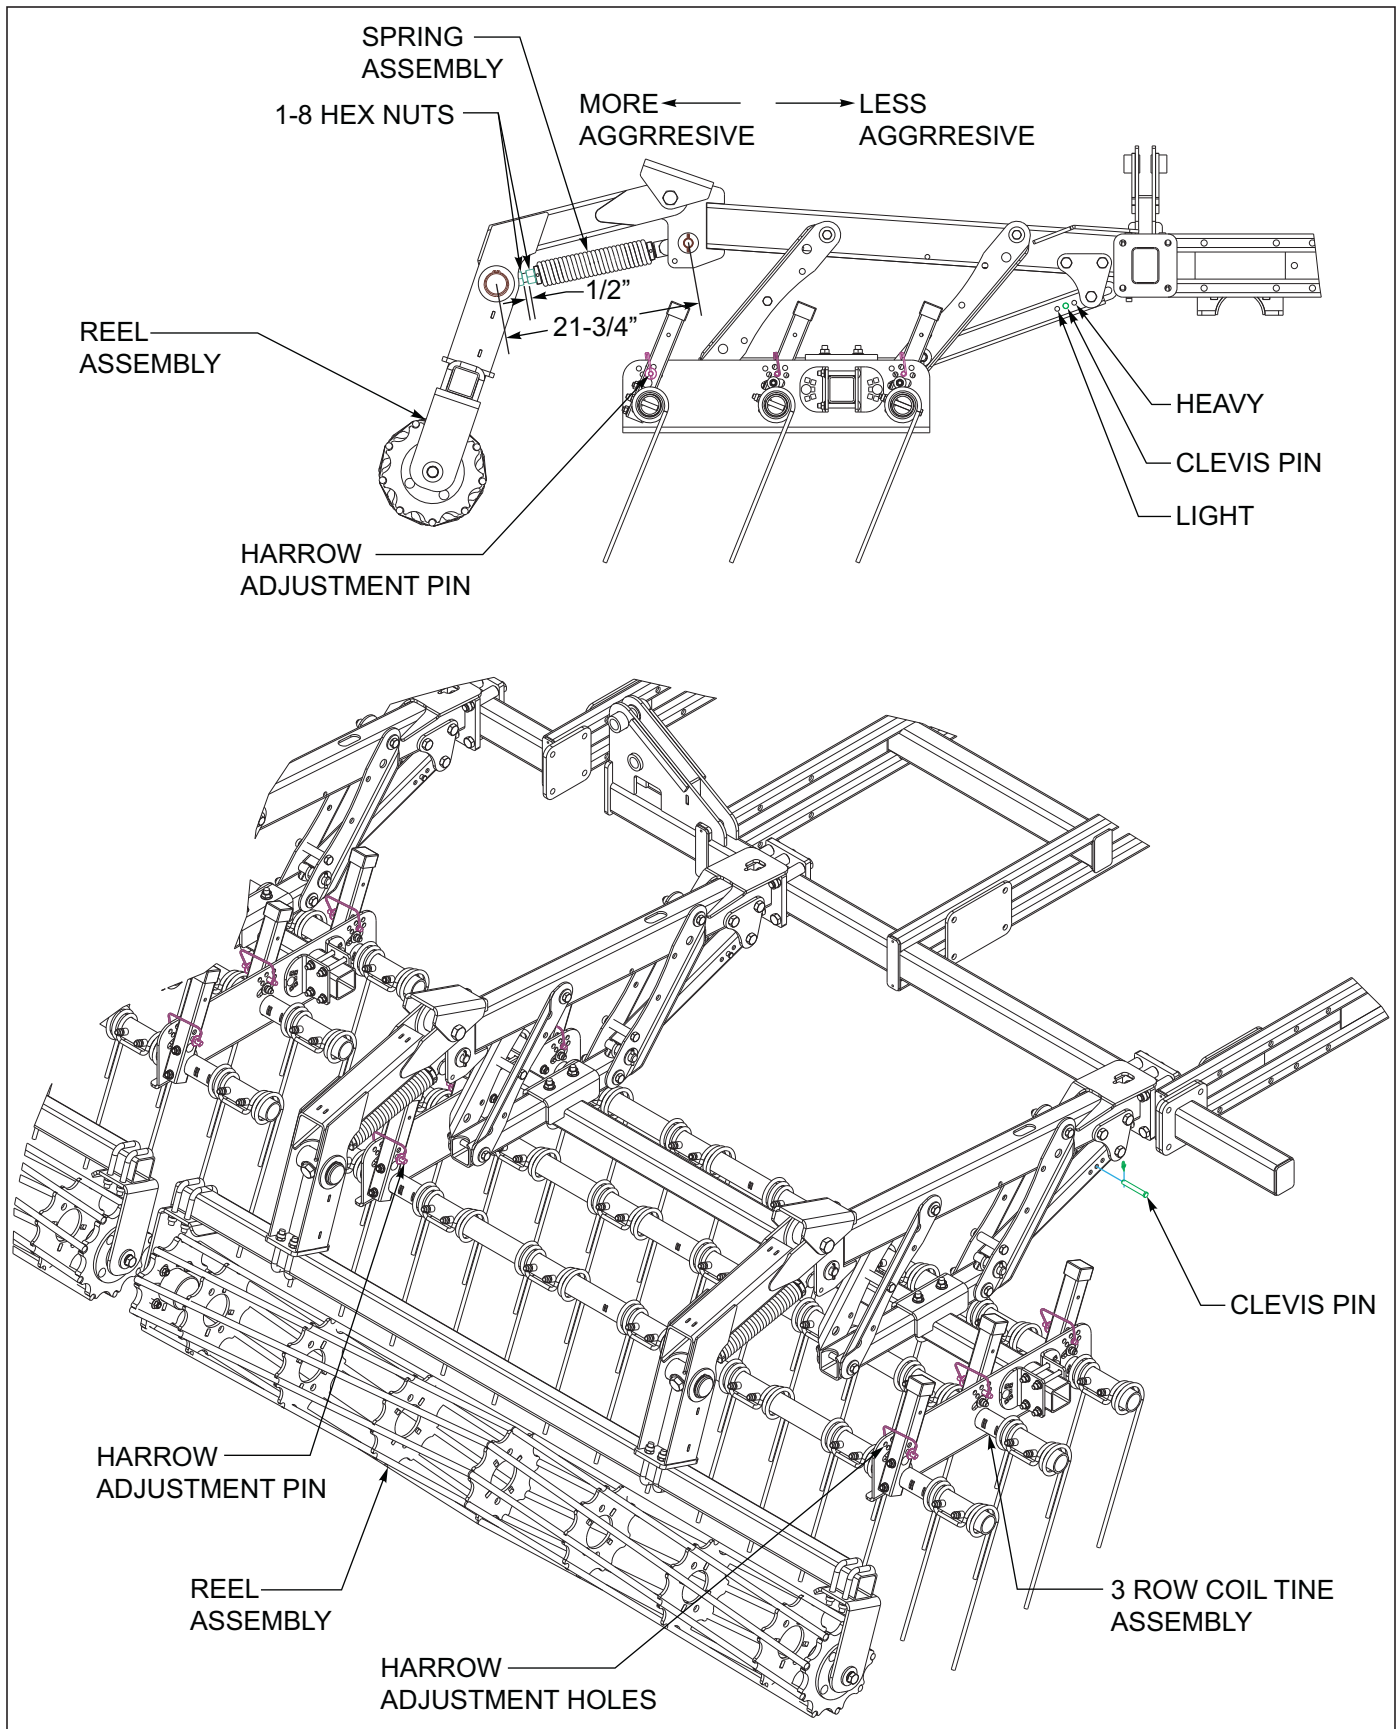

Figure 4-12: 3 Row Coil Tine and Reel Adjustments
3. In general tine harrows have better capabilities for handling more residue and wetter conditions. When operating the coil tine harrow, a more vertical tine tooth angle will make the harrow more aggressive. A lower/flatter tine angle will make the harrow less aggressive but will handle more residue and wetter conditions. To change the tine angle, raise the harrow off the ground. Remove the harrow pin from both angle adjustment tubes per tine gang bar tube See Figure 4-12. Rotate the angle adjustment tubes forward (less aggressive) or rearward (more aggressive) and reinstall both spring clip pins. Repeat the tine adjustment for each tine gang bar tube and harrow section.
6. Each coil tine harrow may be adjusted for spring pressure as well See Figure 4-12. Raise the tine harrow off the ground. Remove the clevis pin from the spring tube and install in a heavy or light setting as needed. **Excessive spring pressure and tine angle can overload harrow spring.**
7. To adjust the reel height, loosen the locking hex nut against the threaded spring end See Figure 4-12.